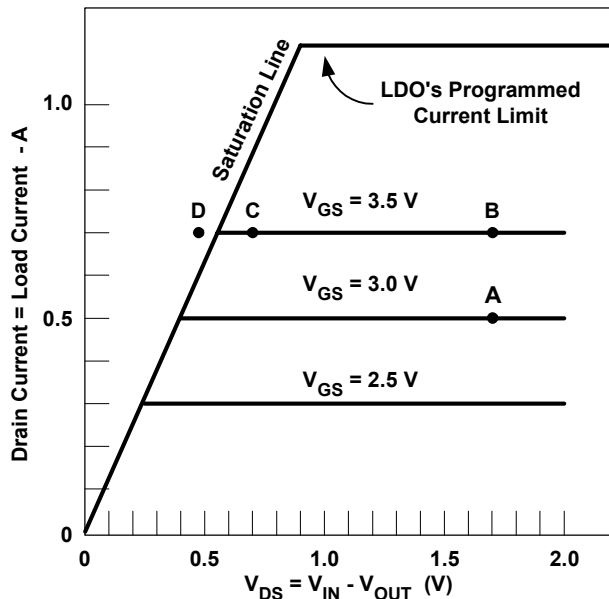
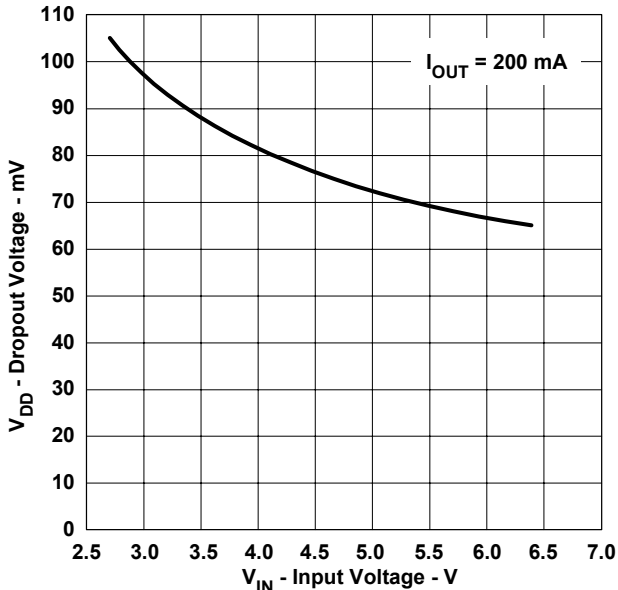

Fig. 3 Operating region of an LDO's N-channel pass element.
Fig. 7. TPS79901 dropout voltage vs. input voltage.
Fig. 3 shows the operating region of an LDO's N-channel pass element. The range of operation is limited in the x-axis by the saturation region of the pass element, and limited in the y-axis by either the pass element's saturation region or by the IC's programmed current limit. In order to operate properly and maintain a regulated output voltage, the pass element must operate within the boundaries set by these two lines. In the example, the drain-to-source voltage of 1.7 V and the drain current of 500 mA set the operating point at "A." At this point, the LDO sets the pass element's gate-to-source voltage at 3 V to maintain regulation. A line drawn through the origin and point "A" represents the 3.4 Ω resistance.
Consider a change to the static conditions in the example: if the load resistance decreases (an increase in load current), the LDO must react to maintain regulation. If it doesn't react, the LDO has a higher voltage drop across the pass element which causes the output voltage to fall out of regulation. The LDO must decrease the pass element's resistance by increasing the gate-to-source voltage on the FET. When the gate-to-source voltage increases, the operating point moves upward, assuming a fixed input and output voltage. If $I_{OUT} = 700$ mA, the error amplifier increases the pass element's gate-to-source voltage to 3.5 V to maintain regulation. This corresponds to "B." A line drawn through the origin and point "B" now represents a pass element resistance of 2.4Ω . Fig. 3 shows that with a drain-to-source voltage of 1.7 V, the LDO's maximum current draw is only limited by the maximum programmed current limit.
LDO datasheets can only specify the IC's dropout voltage under a limited number of operating conditions. Few datasheets provide a graph like that shown in Fig. 3. For all other conditions, the user must interpolate the data to determine the dropout voltage at a specific output current. This task is surprisingly easy. As an example, consider an application that requires $V_{OUT} = 3$ V at 170 mA with an input voltage that varies between 3.15 V and 3.45 V. The designer has chosen a TPS79330 LDO and needs to know if it can be ensured that the LDO doesn't enter dropout.
Table 1 shows the datasheet's ensured dropout voltage from the parametric table. The datasheet shows that the maximum dropout voltage (ensured over all temperatures) for a 3.0 V output at 200 mA is 200 mV. The minimum input voltage of 3.15 V for this application requires the effective dropout voltage be less than 150 mV at 200 mA. For this regulator, the actual dropout is less than 200 mV since the current is less than 200 mA, but the datasheet does not specify the dropout voltage at 170 mA. When operating in dropout, the LDO pass element is at its minimum $R_{DS(on)}$ which is equivalent to operating on the saturation line like the one shown in Fig. 3. This minimum resistance is calculated by dividing the dropout voltage by the test current. The TPS79330 pass element minimum $R_{DS(on)}$ is shown in Equation (3).
Another factor affecting an LDO's minimum dropout resistance is the input voltage to the device. This is a second-order effect, but is worth noting. The higher output voltage options require a higher input voltage, which allows the device to drive the pass element harder, and in turn provides a slightly lower resistance. Most discrete FET datasheets show a change in $R_{DS(on)}$ versus gate-to-source voltage. Some LDO datasheets provide a graph (Fig. 7) of dropout versus input voltage, but this is rare. Even without a graph, this information is evident from the dropout data shown in Fig. 4. The 3.0-V option (TPS79330) in Fig. 3 has a 200-mV dropout voltage while the 4.75-V option (TPS793475) has a 125-mV dropout voltage. This is a 37 % reduction in dropout voltage.